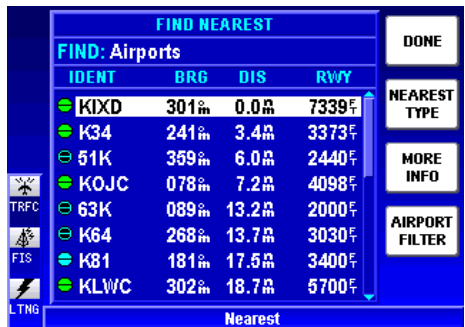

Figure 1-55
1. Press the **NRST** Key to display the **FIND NEAREST** display as shown in Figure 1-55. In this case a list of airports is displayed.